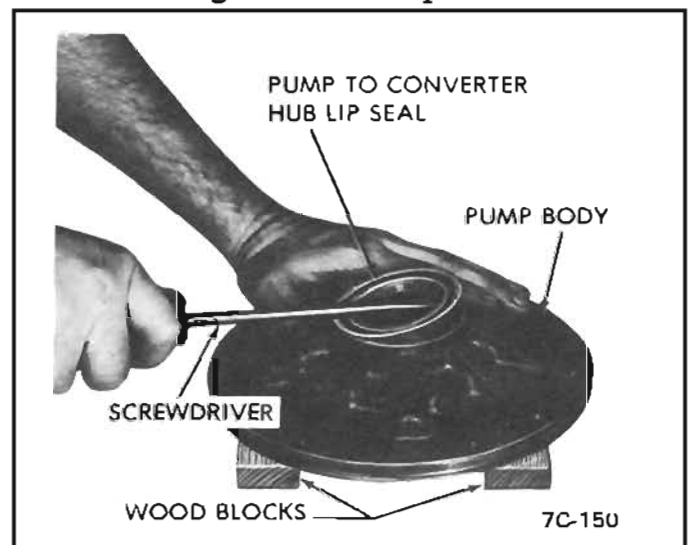

Figure 50 Converter Seal Removal
9. Remove pump body to converter hub lip seal if necessary. *See Figure 50.*